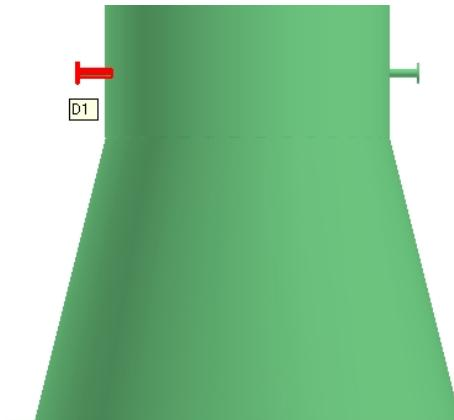

Figure 50: Located Nozzle D1
4. In the graphic view, locate and click the equipment nozzle D1, as shown in Figure 50.